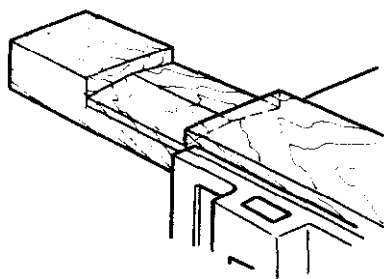

Fig. 9-17 Roughed out gain
2. To cut a gain horizontally across the grain, proceed as follows: (See figures 9-17, 9-18, and 9-19.)